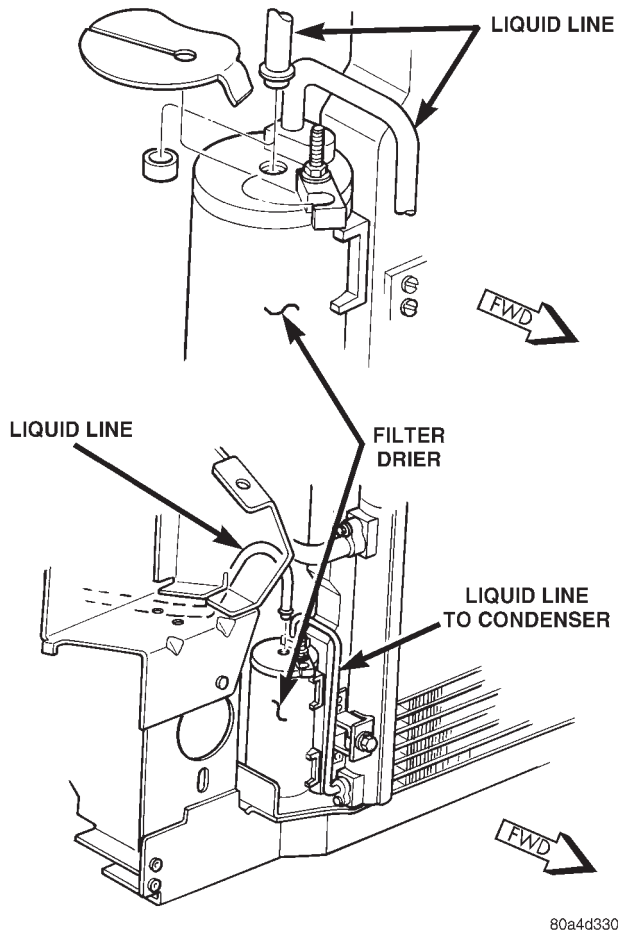

Fig. 21 Filter-Drier
- (1) Recover A/C system refrigerant.
- (2) Remove liquid line at filter-drier (Fig. 21).
- (3) Remove (2) nuts attaching filter-drier to radiator module.
- (4) Remove upper radiator crossmember.
- (5) Tilt radiator rearward.
(1) Recover A/C system refrigerant.
(2) Remove liquid line at filter-drier (Fig. 21).
(3) Remove the (2) bolts holding filter-drier bracket to radiator fan module bracket.
(4) Remove the lower liquid line at condenser.
(5) Remove the upper radiator crossmember.
(6) Pull up on radiator and slide filter-drier from the mounting location.